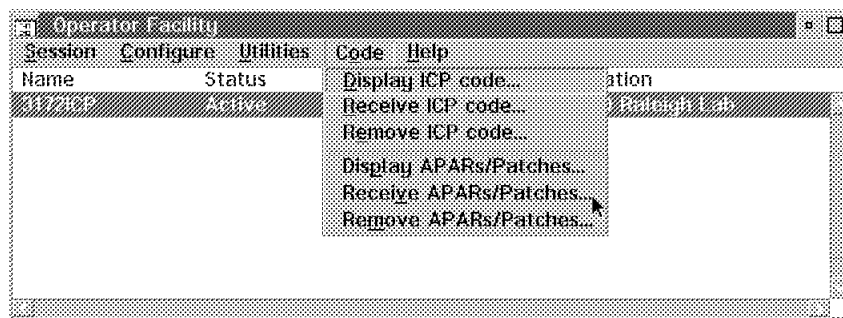

Figure 37. Selecting Receive APARs/Patches
Step 4. Select **Code** from the Operator Facility/2 action bar and click on **Receive APARs** as shown in Figure 37.